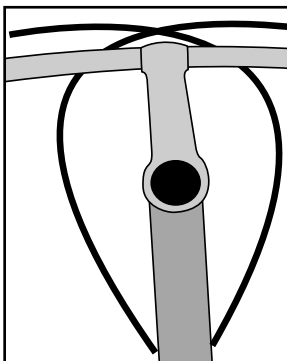

Fig. 21
3. The cables go around the head tube; the left shift cable enters the front of the top tube on the right side. The right shift cable enters the top tube on the left side (Fig. 21). This routing results in low cable friction and prevents the housing from rubbing on the paint of the head tube.